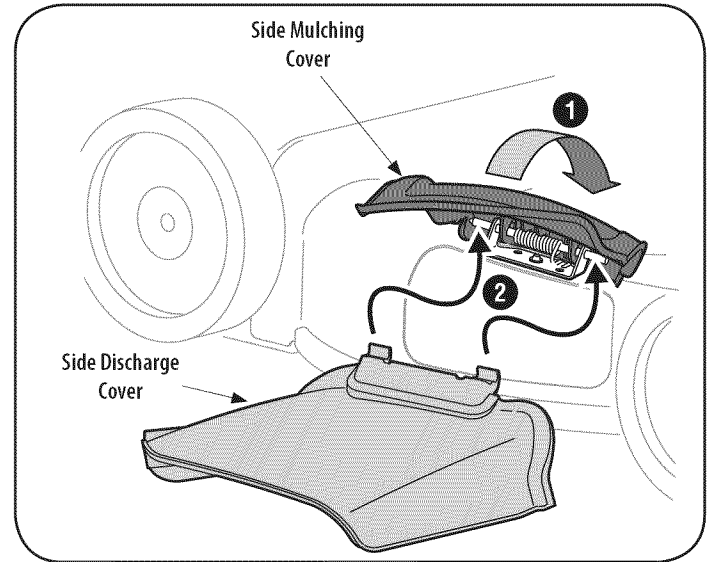

Figure 7
1. On the side of the mower, lift the mulching cover. See Figure 7.